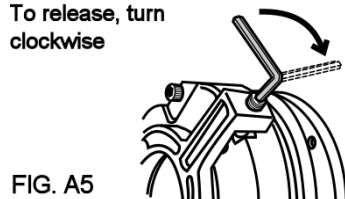

FIG. A5
1. Release the brake (**Fig A5**) turning clockwise the screw in the lever of brake's ring.
If the equipment requires a band saw adjustment, you will need to release the pulley. Use a 5/32" allen wrench (included) and turn the screw (see **Fig A5**) clockwise a whole turn. Complete service and screw back to previous position to lock the pulley again.